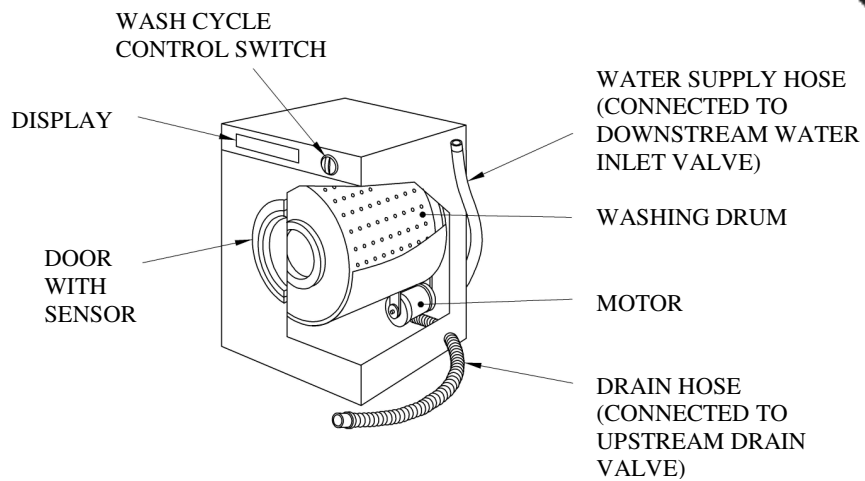

Figure 2(a)
2. Figure 2(a) shows a washing machine.